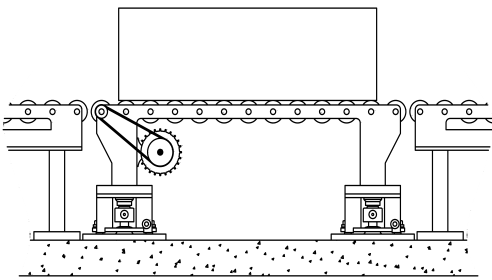

Figure 6-11: Conveyor Scale, Low Speed
- **Conveyor Scale, Low Speed:** For low-speed conveyor scale applications (often of high capacity) settling time is typically not critical. Instead of using stabilizers, it is better to let the scale float freely to absorb shocks and restore itself after any horizontal impacts (see Figure 6-11).